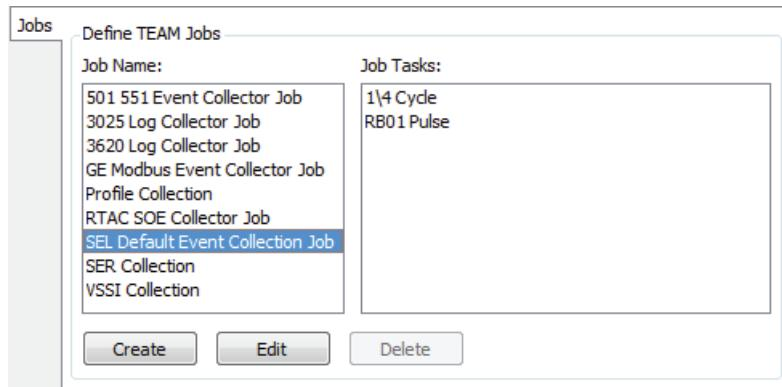

Figure 94 Assigned Tasks
- Step 6. Select **Next** until the **User Command Tasks** window displays. Scroll down and select **RB01 Pulse**. Use the arrow button () to transfer this selection to the Assigned Tasks listing. *Figure 94* shows the SEL Default Event Collection Job with RB01 Pulse added as a task.